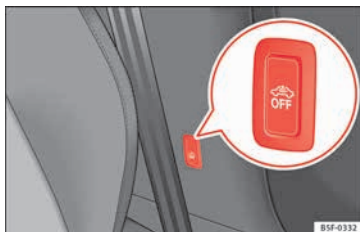

Fig. 136 Vehicle interior monitoring/tow-away protection button.
- To switch off the vehicle interior monitoring and tow-away protection, switch off the ignition and press button » **Fig. 136**. The indicator on the button will light up.